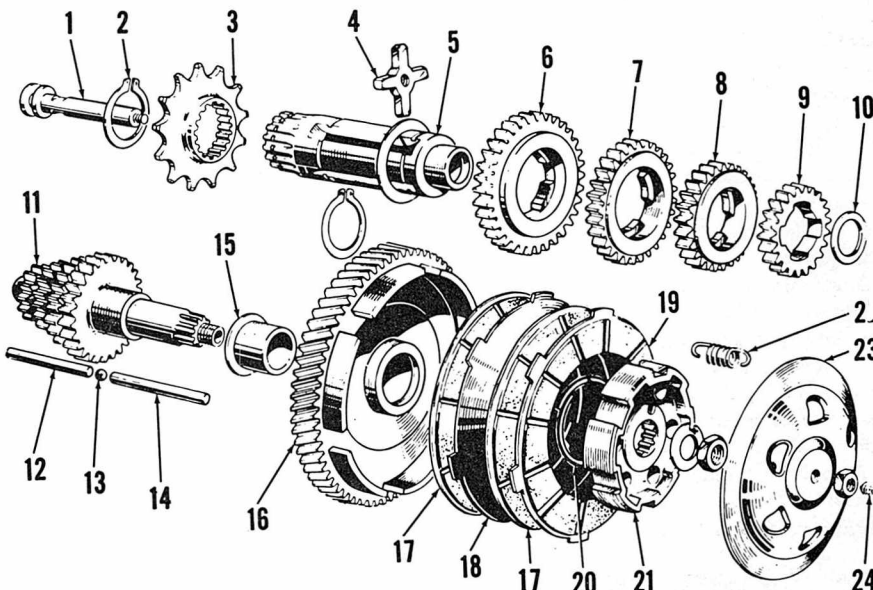

**Fig. DC1-1 — Exploded view of Del'Orto carburetor typical of type used on 48 and 94 cc models.**
**CARBURETOR.** Del'Orto UA15S is used on 48cc models; UA18S on 94cc models. Fig. DC1-1 shows exploded view of similar carburetor. Idle mixture is adjusted at screw (1) and idle speed at screw (7). Clip (4) should